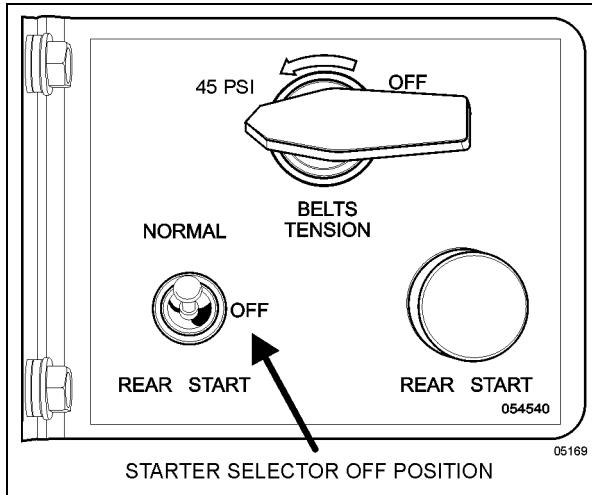

FIGURE 20: REAR START PANEL
3. Set starter selector switch to the OFF position (Figure 20).